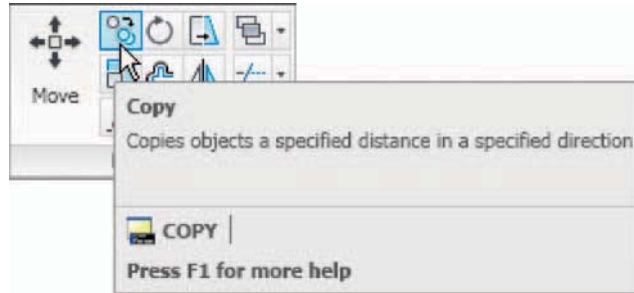

Fig. 5.4 The **Copy** tool from the **Home/Modify** panel
2. Call the **Copy** tool – either *left-click* on its tool icon in the **Home/Modify** panel (Fig. 5.4), *pick Copy* from the **Modify** toolbar, or *enter cp* or *copy* at the command line.